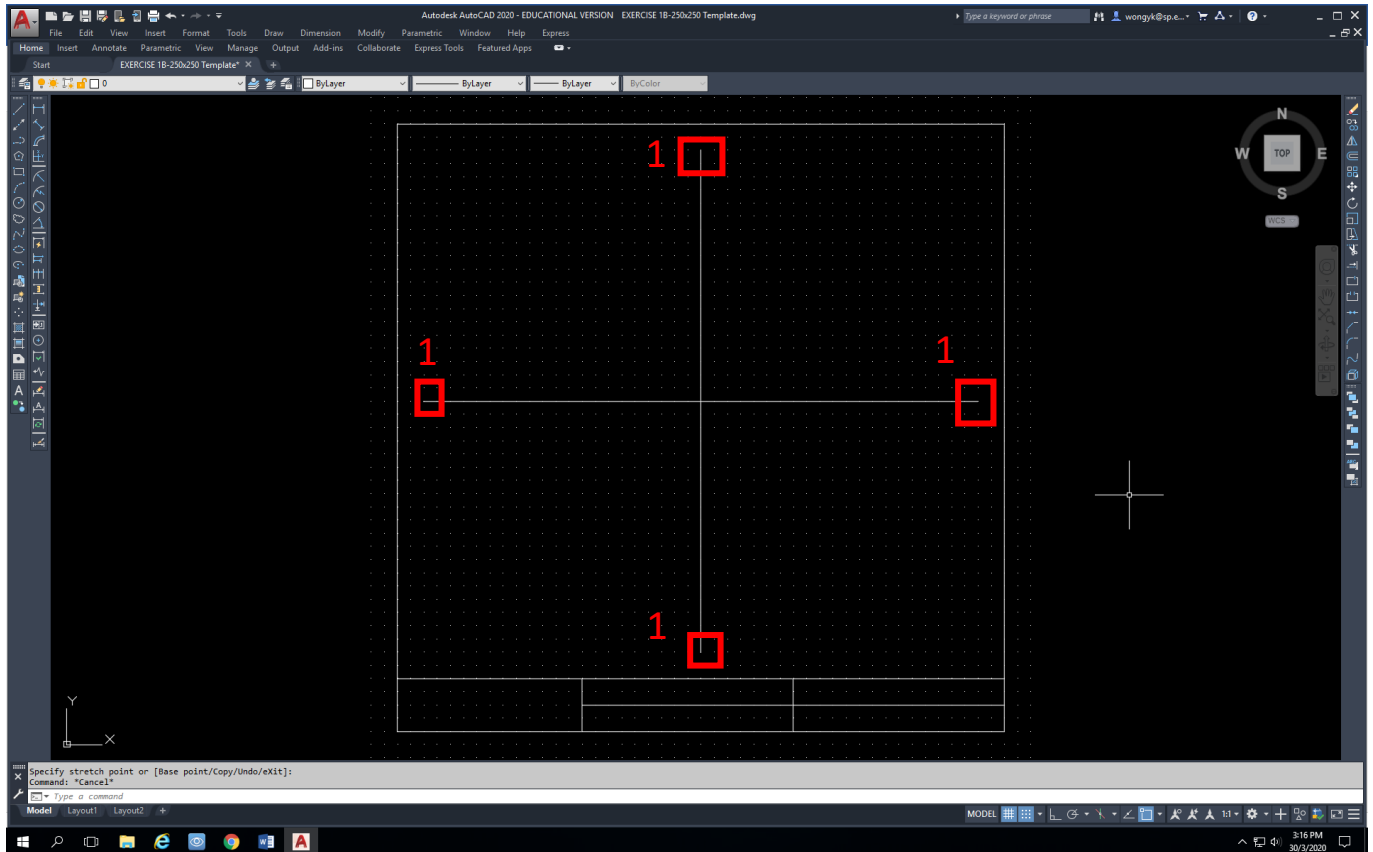

Fig 7
- ii. **Click on one end** and it **turns red**. Then **move 10mm** away from border and **click at the spot (1)**.
- iii. Do it for all the other 3 ends **(1)** so that the intersecting lines is away from the border by 10mm as shown in Fig 7